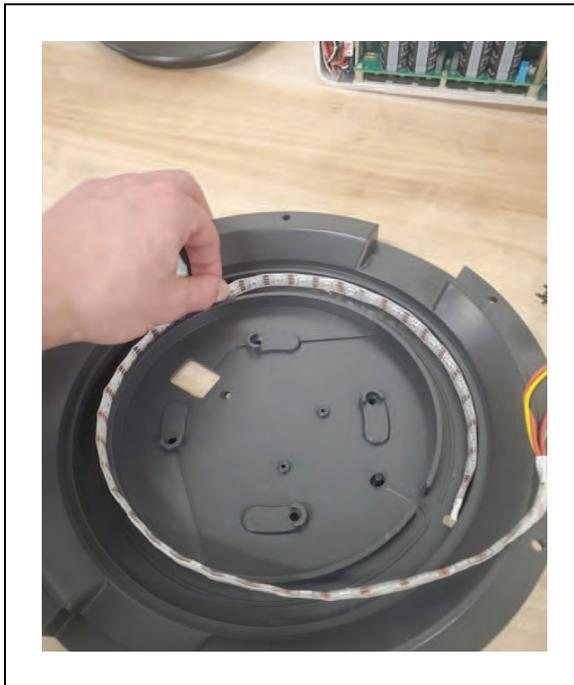

Figure 8-32. Peeling the LED Strip off the LED Mount Plate
9. Adhere the new LED strip to the LED mount plate. The direction of the LED strip is important and if installed incorrectly, the animations will be backwards. Figure 8-32.